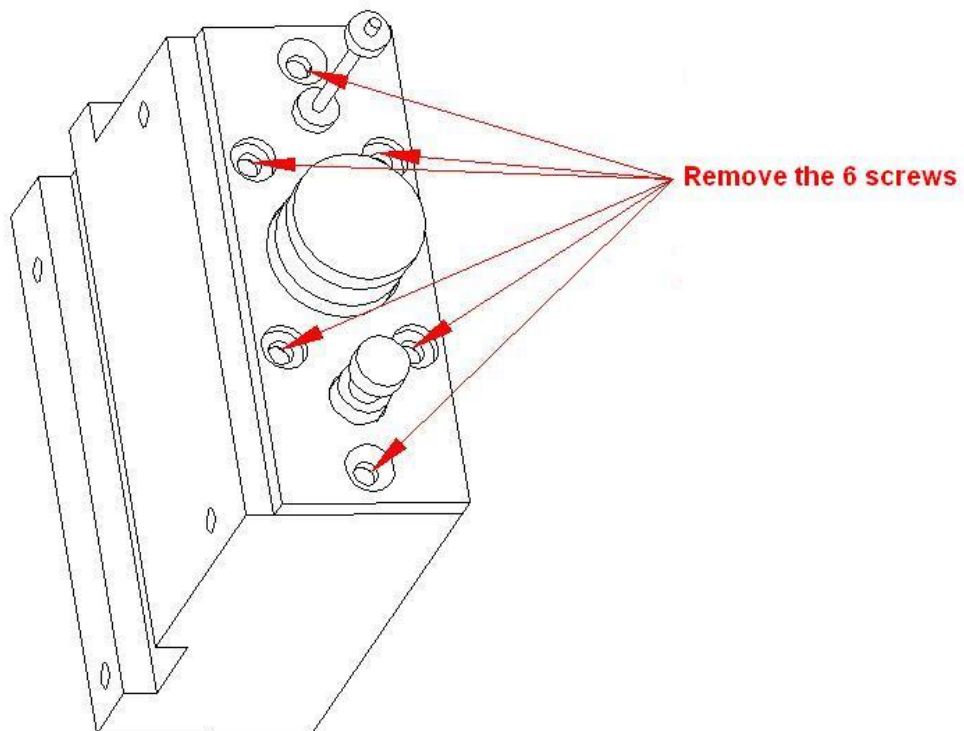

Figure 5-6
- 2) Loosen the 6 screws at the bottom of reagent dispensing syringe, pull out the 3 pistons from the body of syringe, as shown in figure 5-6: